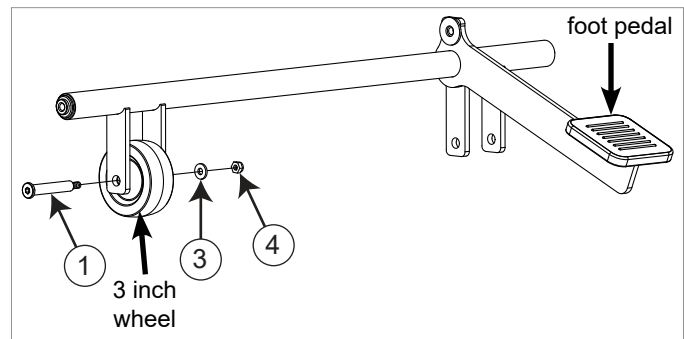

Fig. 2
2. Take the wheel support and mount one of the 3 inch wheels to the end furthest from the foot pedal. Use the short axle, one M6 washer, and one M6 nylon hex nut to mount the wheel to the support as shown in Fig. 2. Fully tighten the nut using a 10 mm wrench and a 5 mm hex key.